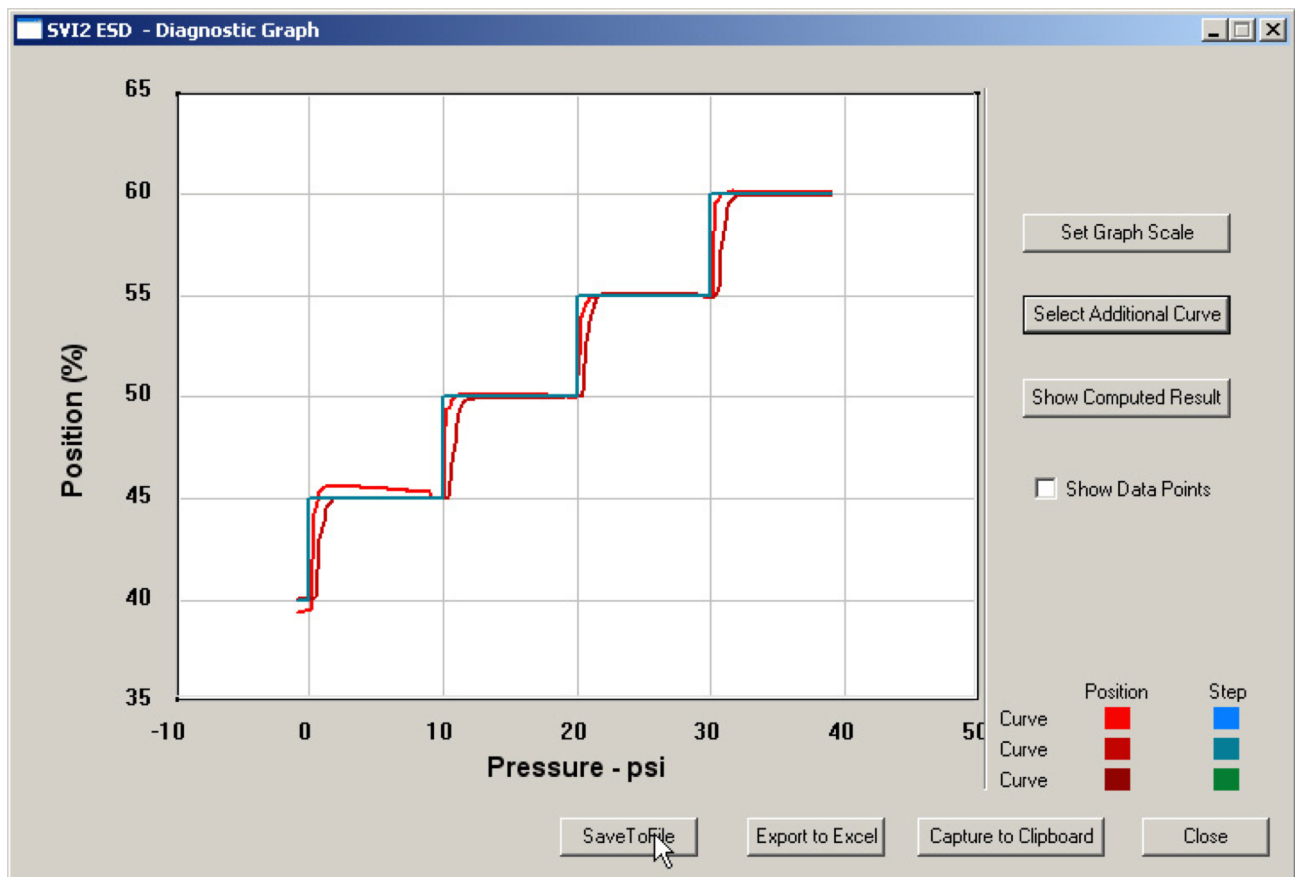

Figure 194 - Selecting Save To File
1. Select **Save To File** (Figure 194).